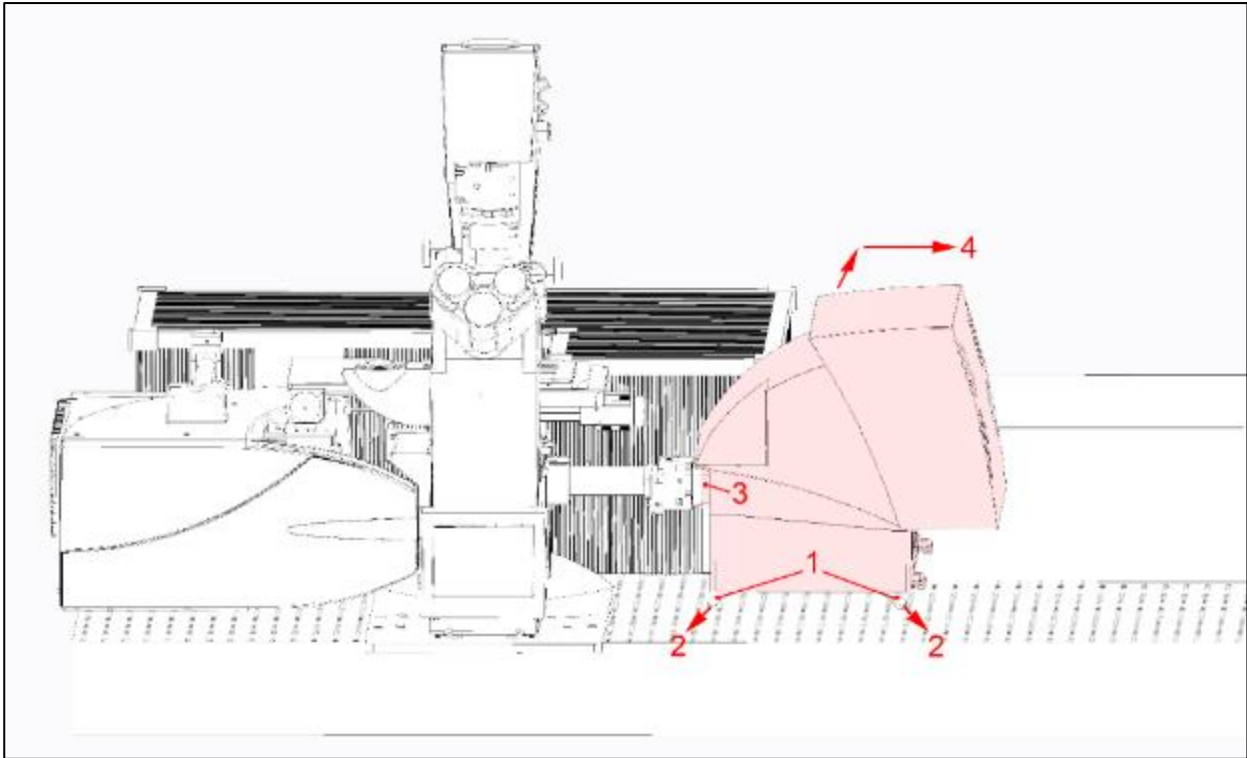

Figure 61: Removing 4Tune
2. You need the 5.0 mm hexagon socket wrench (orange). Unfasten the two clamps on the 4Tune by loosening the two screws (Figure 61, position 1).
3. Pull the two clamps away from the 4Tune module in the direction of the arrow (Figure 61, position 2).
4. You need the 3.0 mm hexagon socket wrench (yellow). Unscrew the screw (Figure 61, position 3) at the 4Tune coupling but do not unscrew too far. Unscrew until you feel a slight resistance.
5. The 4Tune module rests on aligned guide rails. Do not apply much force during the following step and do not lift the 4Tune module. Do not touch the optics as it gets exposed. Now you can remove the 4Tune module by carefully pulling it approx. 3 mm backwards and then to the right (Figure 61, position 4).